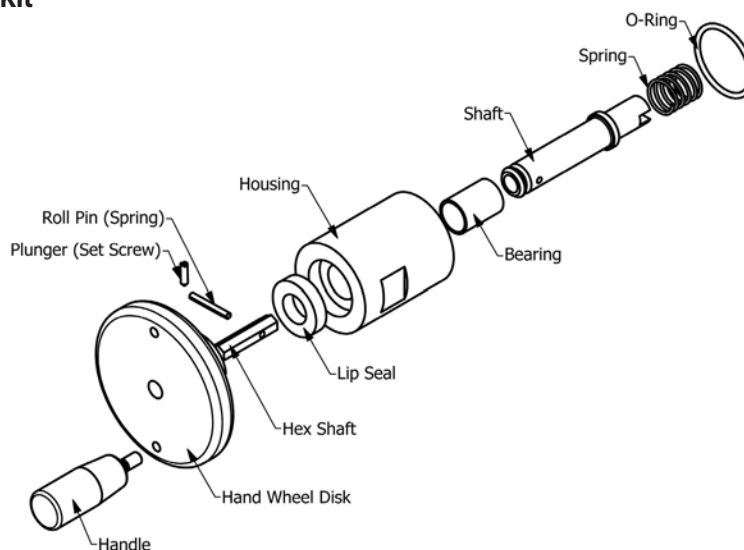

Figure 4.M.15-1 Handwheel / Drilldrive
1. Refer to Figure 4.M.15 and remove the hand wheel from the back end of the motor by unscrewing the housing.